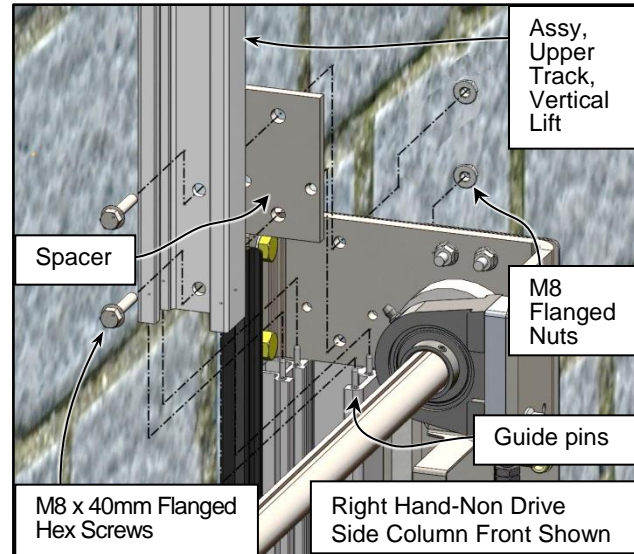
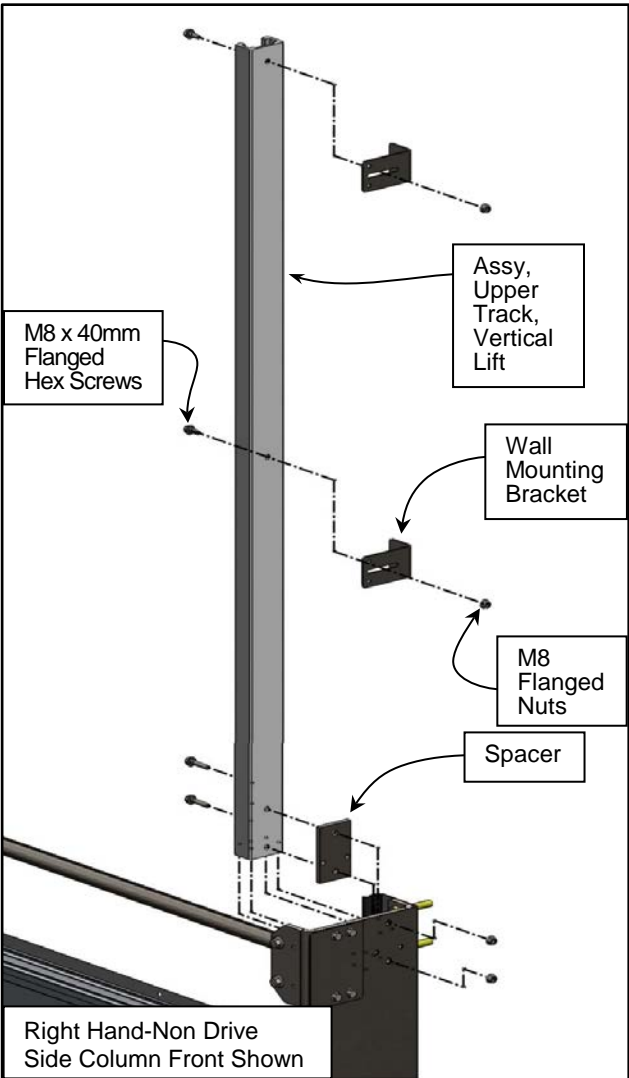

Figure 73
Figure 74
upper inner and outer transition tracks, vertical section track, spacer, locating pins, and fasteners. Install on both side column assemblies as shown. Shim the transition bracket to the wall as necessary. (See Figure 73 & Figure 74)
2. Confirm that guide pins are installed in the guide rail. (See Figure 73)